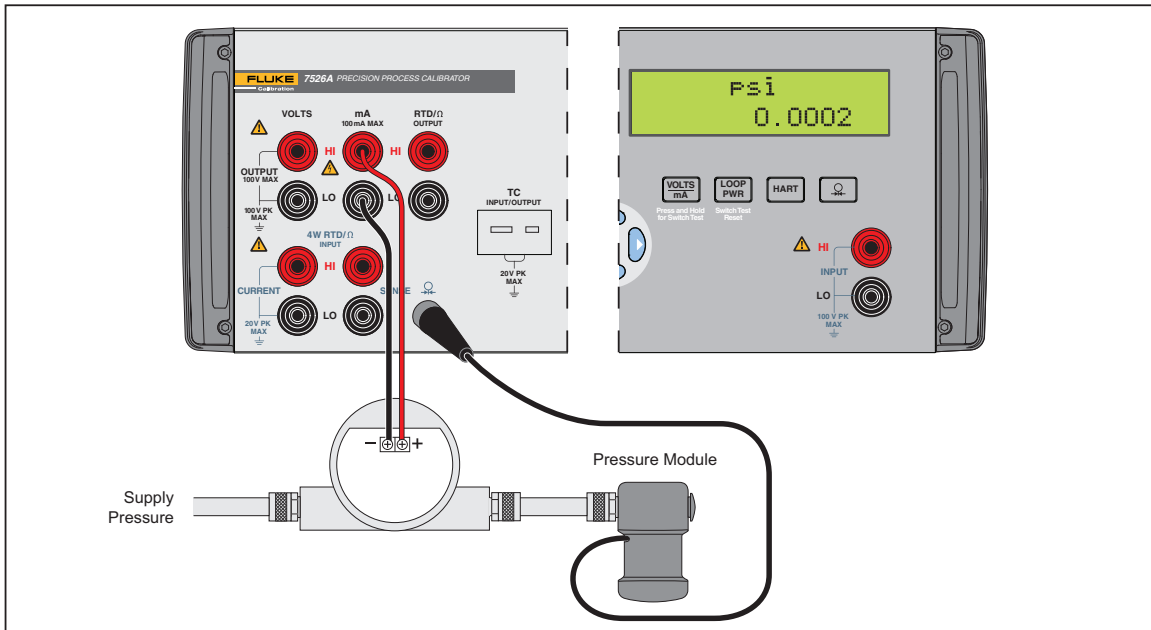

Figure 4-2. I/P Transmitter Application
4. Connect the transmitter as shown in Figure 4-2.